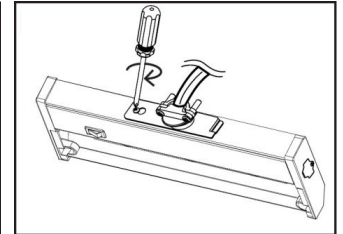

FIGURE 5
- E)** Replace rear access door and secure with screw. Note: Be sure that the wires are not pinched or damaged by any part of the housing or the cover. (Figure 5)